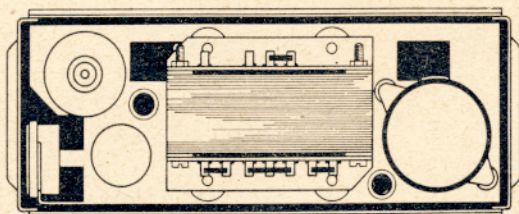

Fig. 3 6 V arrangement
2. Reconnect vibrator transformer in accordance with Fig. 3 or 4.